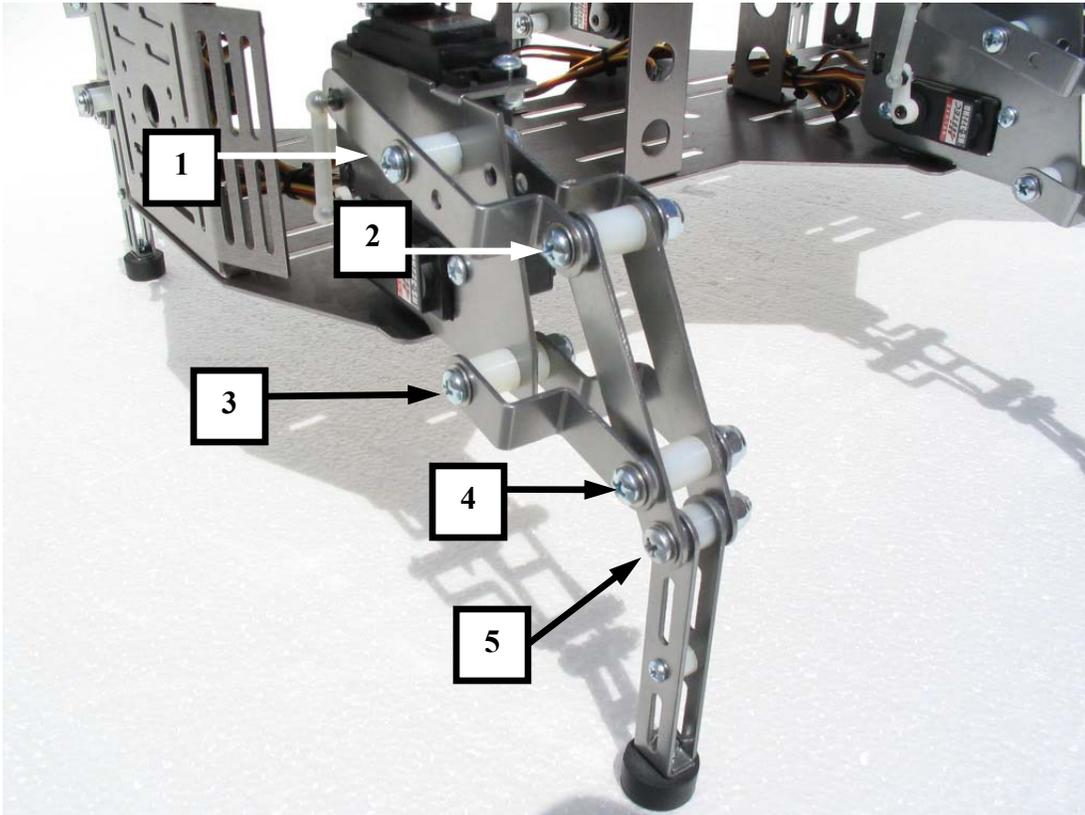

Figure 53
2. Ensure the lower leg is as vertical as possible (for best accuracy, use a level) and then completely tighten the 1” #8 screw with the locknut (box 5 in Figure 53).